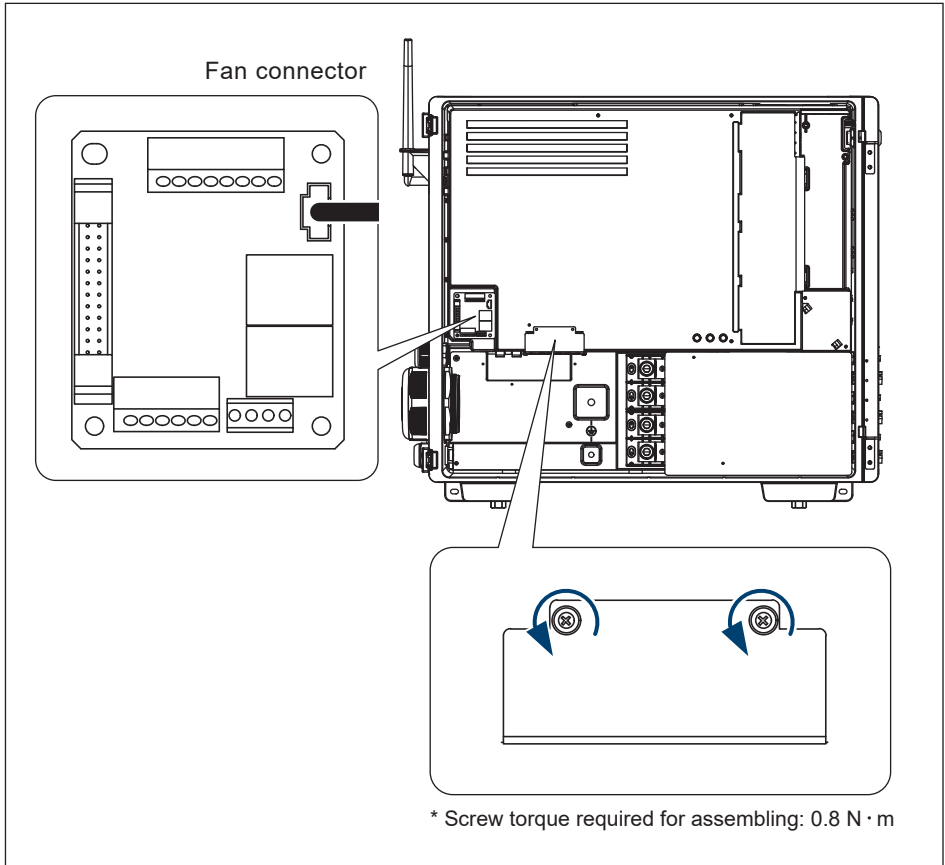

Figure 5-14: Internal fan 2 location & remove the shield cover
- (1) Disconnect the power connector on the COMM. board. (**Figure 5-14**)